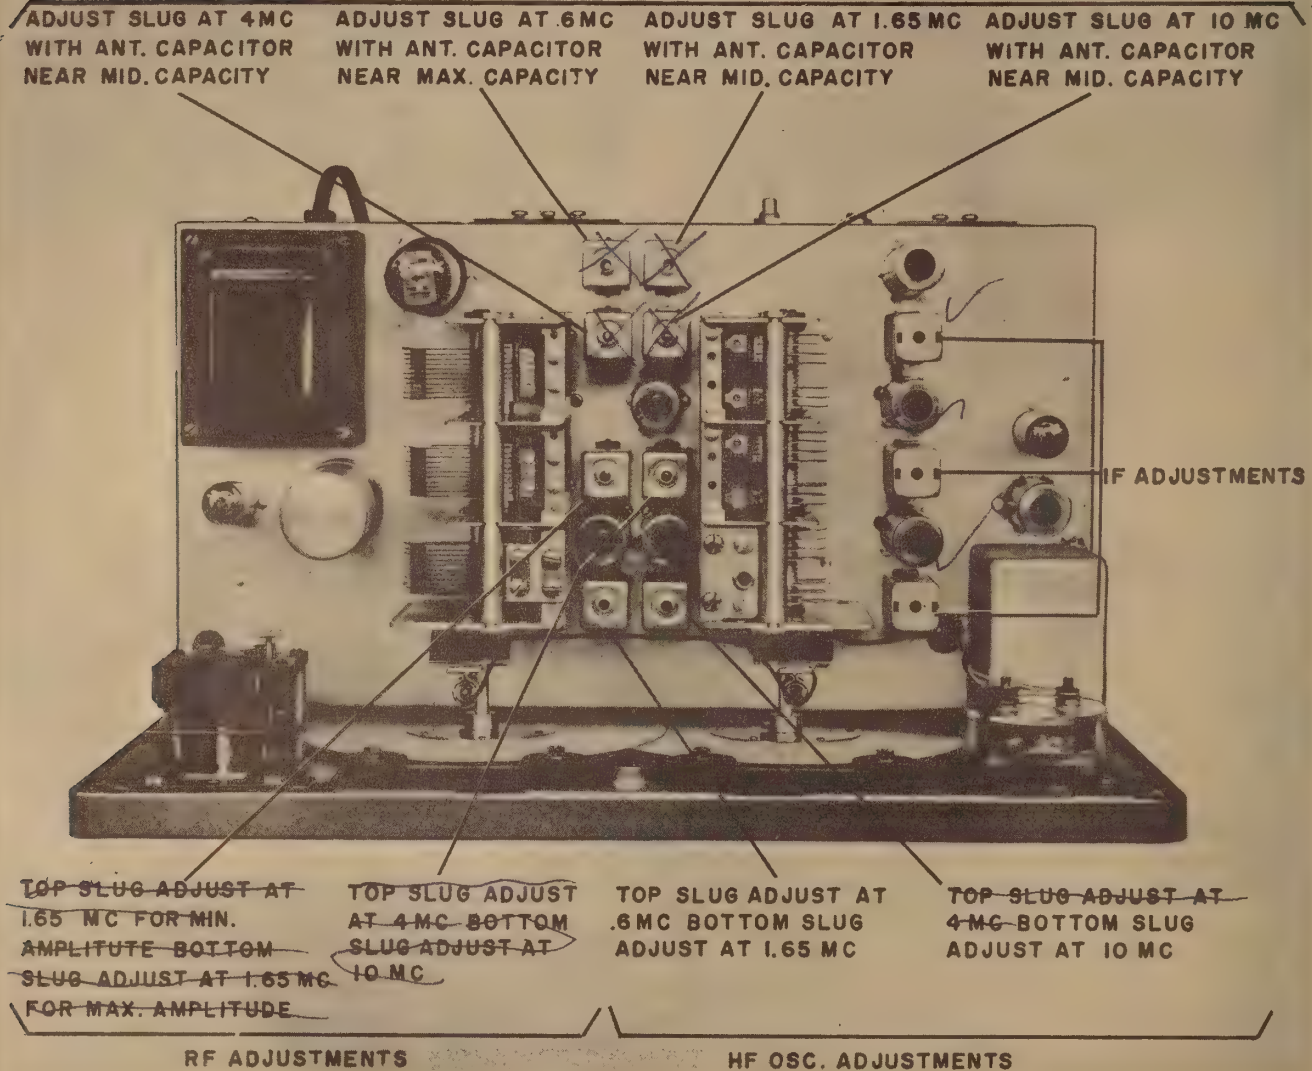

Figure 7. Top View of Chassis
- d. During alignment, adjust the generator output and the SENSITIVITY control to prevent overloading. Final adjustment should be made with the SENSITIVITY control at approximately the third indice from its maximum (clockwise) position. Adjust each of the three IF transformers for maximum meter reading. Topside adjustments (Figure 7) are secondaries or grid cir-
- b. All RF and oscillator slug adjustments are made from the top of the shield cans. See Figure 7.
- b. Check to see that the frequencies at or near the alignment frequencies are "on the line." If not, make minor adjustments of the slugs and trimmers (Figures 7 and 8) to make them correct.